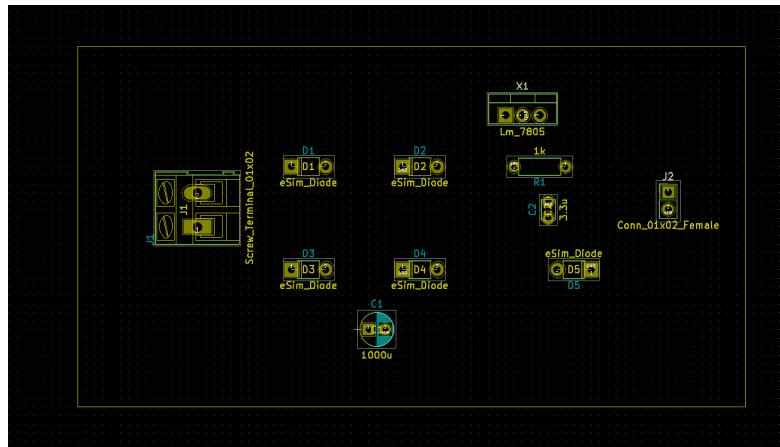

Figure 16.18: Drawing a board outline
4. Click once on the layout editor to start drawing the outline. Drag the cursor either horizontally or vertically. When it comes to the corner of the board, click once and drag the cursor in perpendicular direction. Do this till you reach the origin of the outline, and double click to finish drawing the rectangular outline. Completed outline is as shown in Fig. 16.18.
3. The procedure to place a track between Node 2 of Screw_Terminal_01x02 to Node 1 of D3 diode, as shown in Fig. 16.18 is described in below steps.